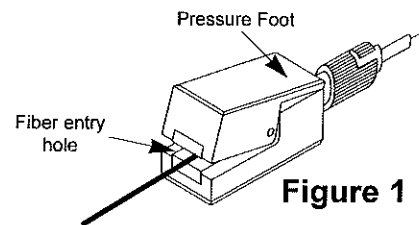

Figure 1
2. Clean fiber with alcohol or cellophane tape to remove any debris/dust. Open end of the Bare Fiber Adaptor by pushing down on the **pressure foot**. Insert fiber into **entry hole** and push through until fiber comes out the end of the connector (Figure 1). Pull fiber back slowly until *flush with connector face. *See Fiber Stop accessory on back if having difficulty getting fiber flush.
Follow step 1 on the other side. Then, open the end of the Bare Fiber Adaptor by pushing down on the pressure foot. Insert fiber into entry hole and push through until fiber comes out of the end of the connector (Figure 1 on other side). Pull fiber back approximately 1/2 the length of the ferrule. Release the pressure foot to secure the fiber.